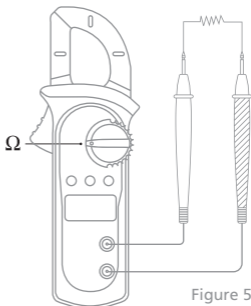

Figure 5
C. Measuring Resistance (Figure 5)